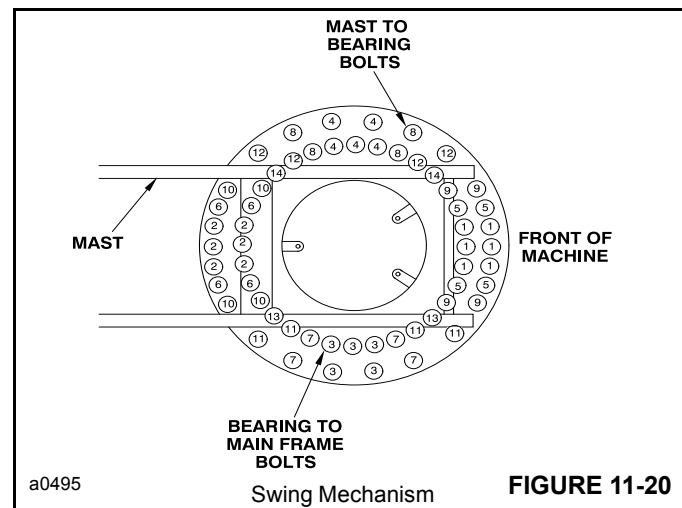

FIGURE 11-20
Use the torque sequence shown in Figure 11-20 when checking the torque on the bolts.
3. Install the bolts (18) and flat washers (17) to fasten the mast bearing to the bearing plate.
4. Figure 11-20 shows order of tightening the bolts. Each bolt must first be tightened to a torque of 698-756 Nm (515-558 lb-ft) and then loosened slightly. After which, each bolt must again be torqued to 698-756 Nm (515-558 lb-ft).
7. Figure 11-20 shows the order for tightening the bolts. Each bolt must first be tightened to a torque of 698-756 Nm (515-558 lb-ft), and then loosened slightly. After which, each bolt must again be tightened to a torque of 698-756 Nm (515-558 lb-ft).